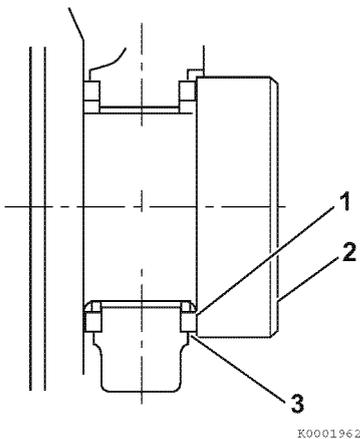

Figure 6-63
- Method B:** Use a feeler gauge (3, **Figure 6-63**) to measure the clearance (3, **Figure 6-63**) between the thrust bearing (1, **Figure 6-63**) and crankshaft (2, **Figure 6-63**). Record the measurement. See *Thrust Bearing* on page 6-10 for the service limit.